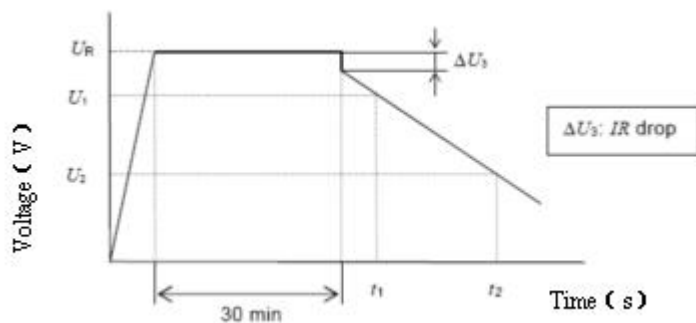

Figure 2 – Voltage characteristic between capacitor terminals
- e) Unless otherwise specified in the individual standards, measure the time  $t_1$  and  $t_2$  where the voltage between capacitor terminals at the time of discharge reduces from  $U_1$  to  $U_2$  as shown in Figure 2, and calculate the capacitance value by the following formula: